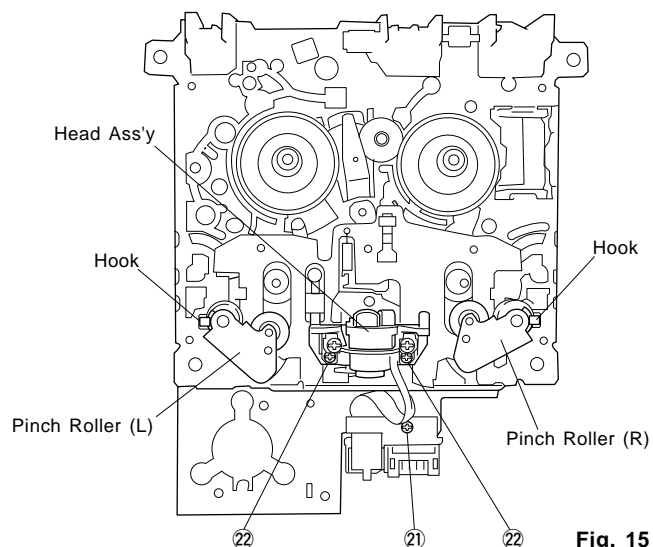

Fig. 15
Detach the hook and then remove the Pinch Roller in Fig. 15.
- Remove 1 screw (21) and then remove the Relay P.C.B. in Fig. 15.
- Remove 2 screws (22) and then remove the Head Ass'y in Fig. 15.